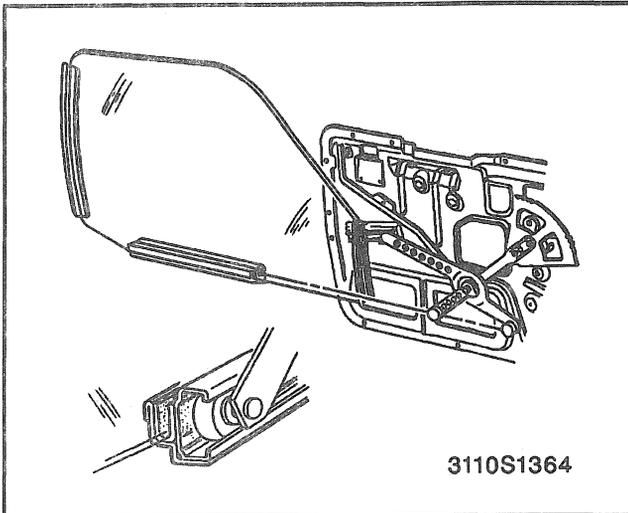

Figure 26—Inner Mounting Panel and Window Sash
8. Inner mounting panel from window sash (Figure 26).
1. Inner mounting panel to window sash (Figure 26).